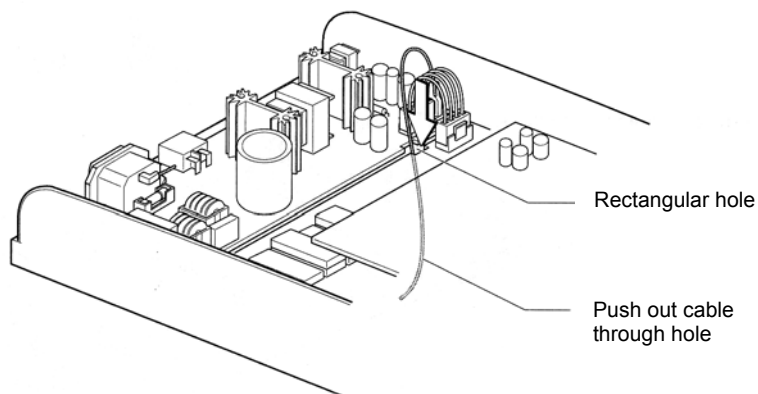

Figure 3
3. Push the green cable out through the rectangular hole located near to the FRG lug (Fig. 3) and insert the cable into the groove on the base of the unit (Fig. 4.).